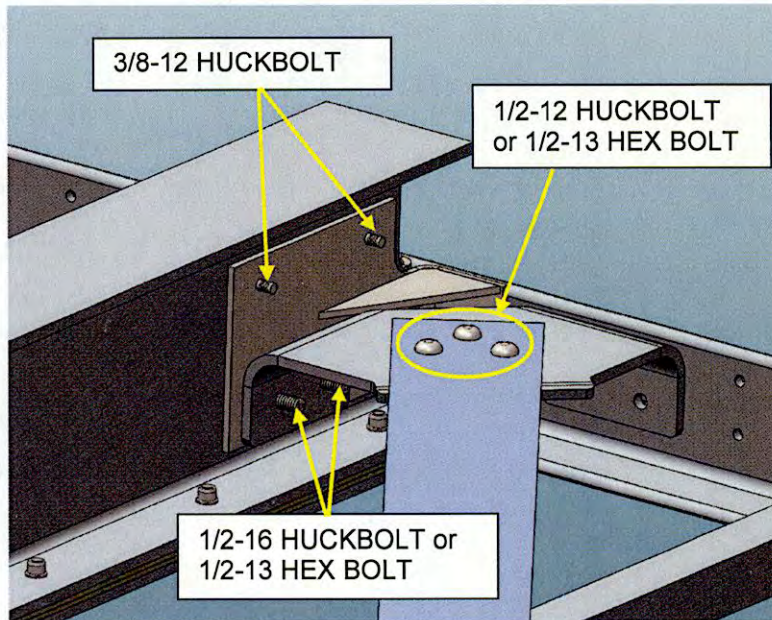

Figure 3
1. Install the new brackets and gusset at each end of the beam per Figures 3 and 4 below. Insert fasteners in existing holes to insure that all parts line up properly and then secure them with collars. If 1/2 Huckbolts cannot be attached, use 1/2-13 with serrated lock nuts and torque to 110 ft-lb.